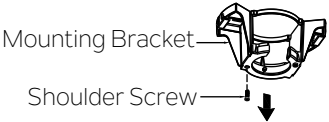

Fig. 12
Step 1. Remove one of the two shoulder screws in the mounting bracket. Loosen the second shoulder screw without fully removing it. (Fig. 12)